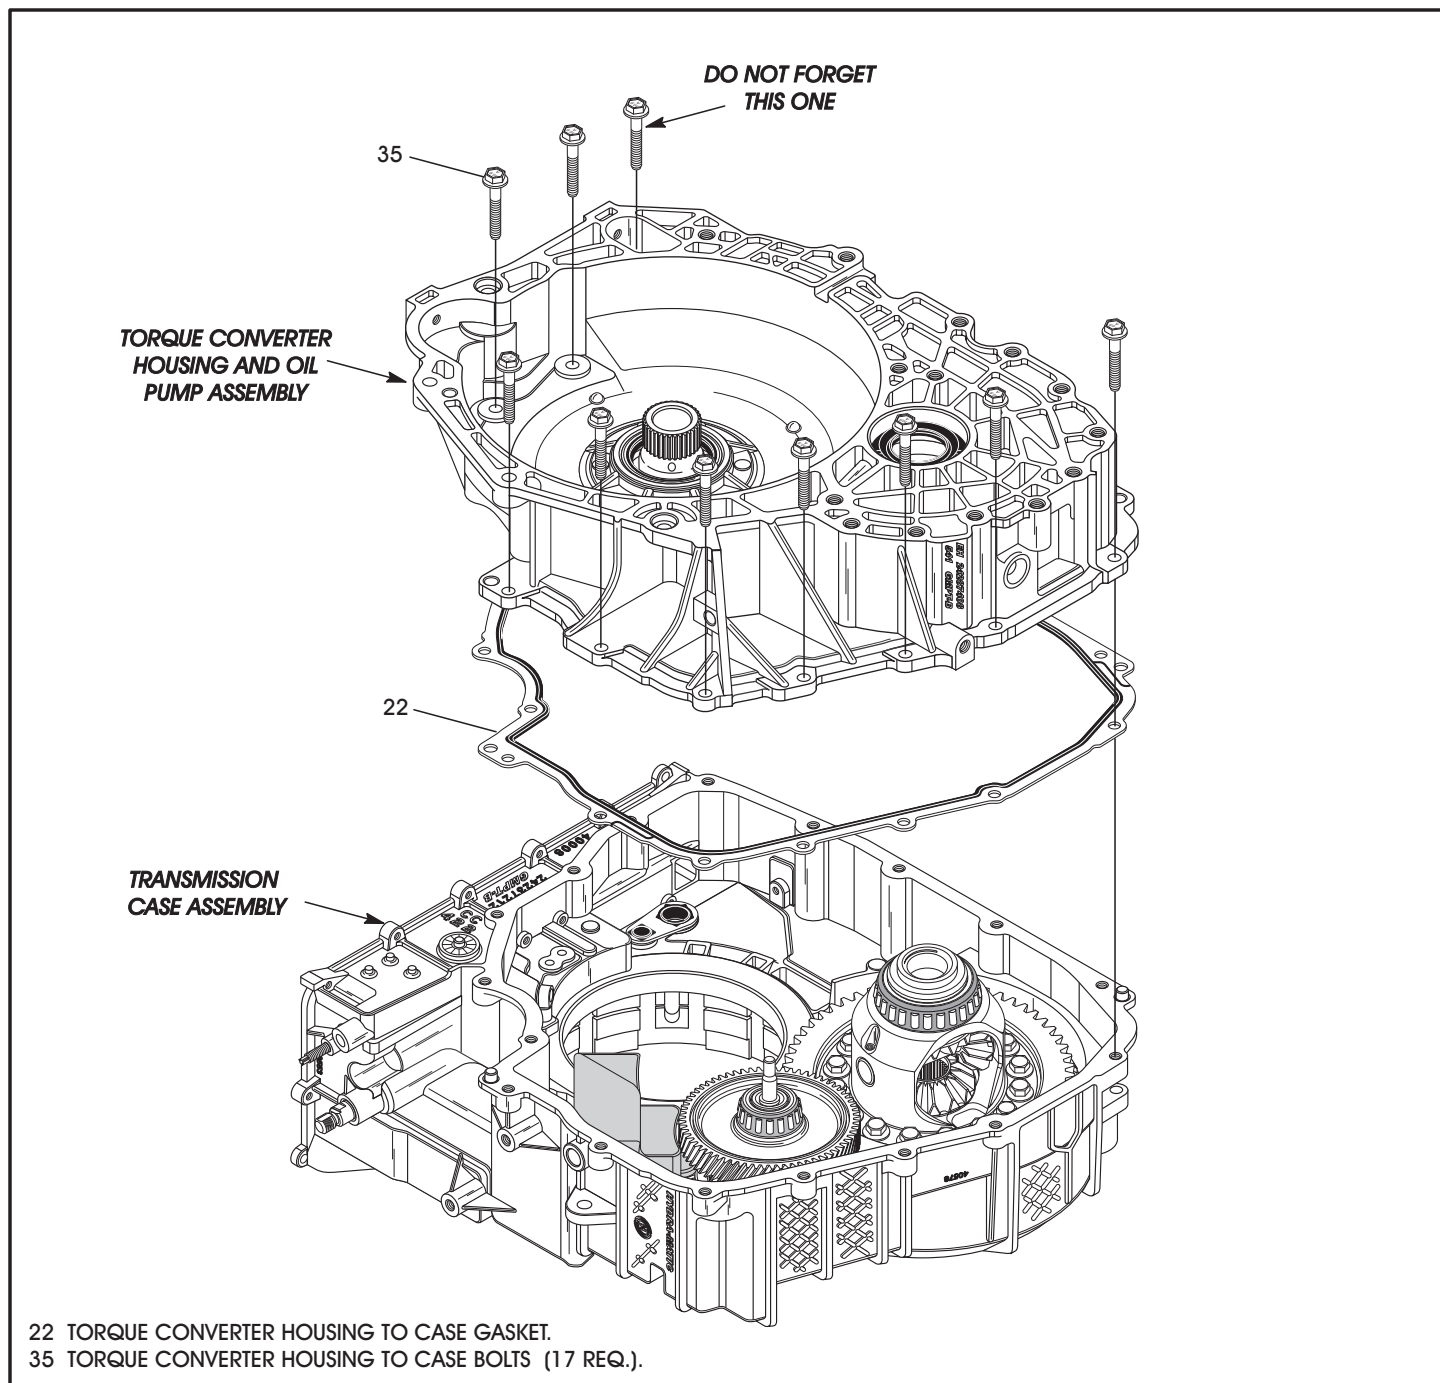

Figure 189
8. Install new converter housing to case gasket onto the case, as shown in Figure 189, and over the locating dowels.
9. Install previously completed converter housing onto case, as shown in Figure 189, and ensure that it is fully engaged on locating dowels.
10. Install the 17 converter housing to case retaining bolts, as shown in Figure 189.